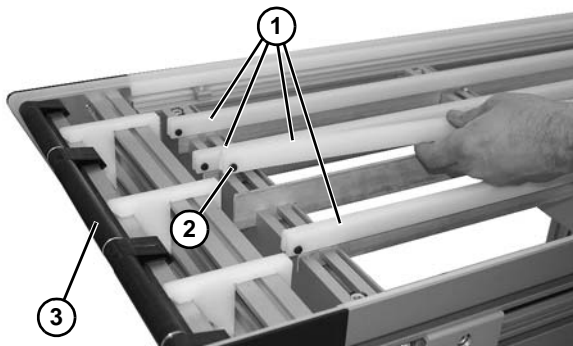

Figure 41
*The top clip-on wearstrips (**Figure 41, item 1**) have a screw (**Figure 41, item 2**) on end of wearstrip on idler end (**Figure 41, item 3**) of conveyor so wearstrips do not move too far toward drive end.*
2. Remove top clip-on wear strips (**Figure 41, item 1**).